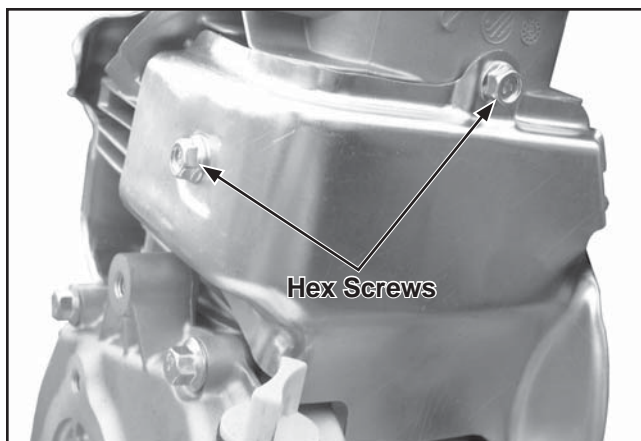

Figure 9-23. Remove CH270 Lower Shield Hex Flange Screws.
4. Remove the hex flange screws securing the lower shield and remove the shield. See Figures 9-23 and 9-24.